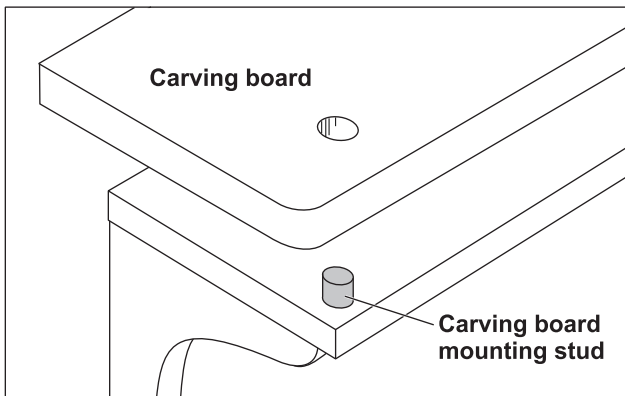

Figure 9. Carving board mounting stud
1. Lift the carving board off of its mounting studs depicted in figure 9.